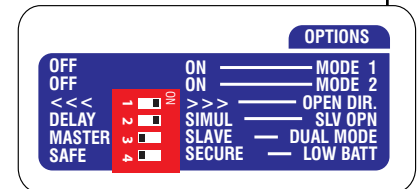

Fig. 3
4. Set DIP switch 1 to designate the operator arm as left or right (Fig. 3) (right is shown here).